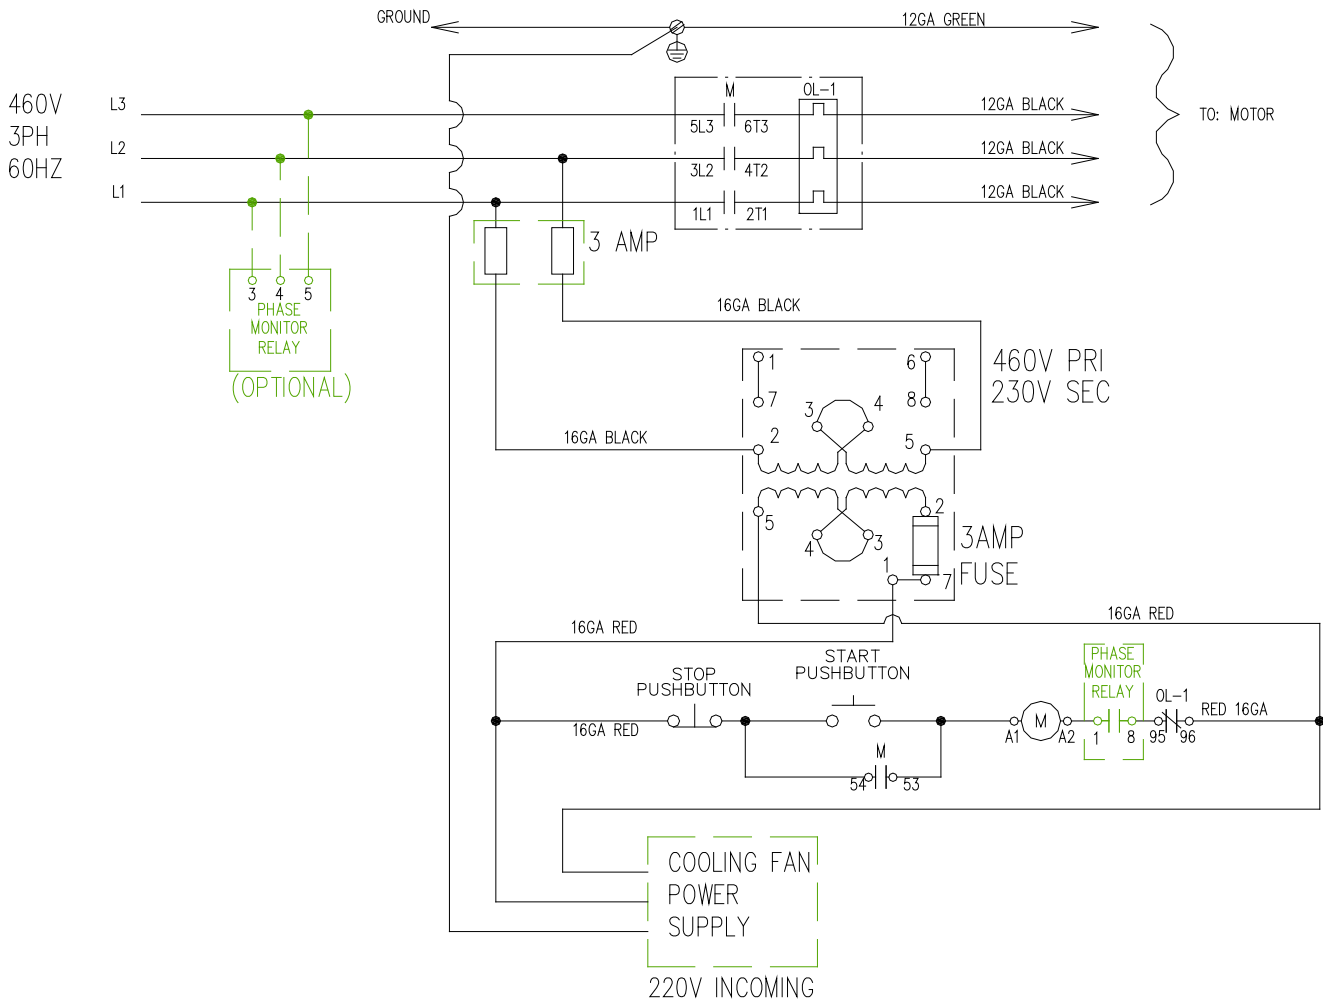

Figure 3-1.
2. The supplied motor starter is wired as shown in Figure 3-1. An electrical plug end must be installed on the cord by a qualified electrician. Ensure the power supply is compatible with the motor nameplate ratings.